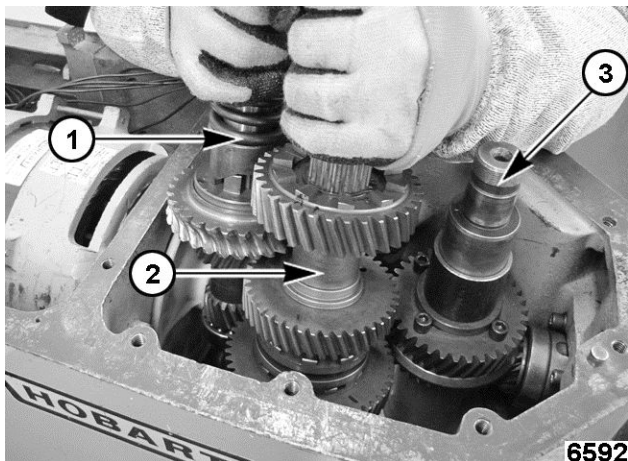

Fig. 48
15. Remove worm shaft and clutch shaft assemblies together (1,2, Fig. 48).
16. Remove planetary shaft assembly (3, Fig. 48).